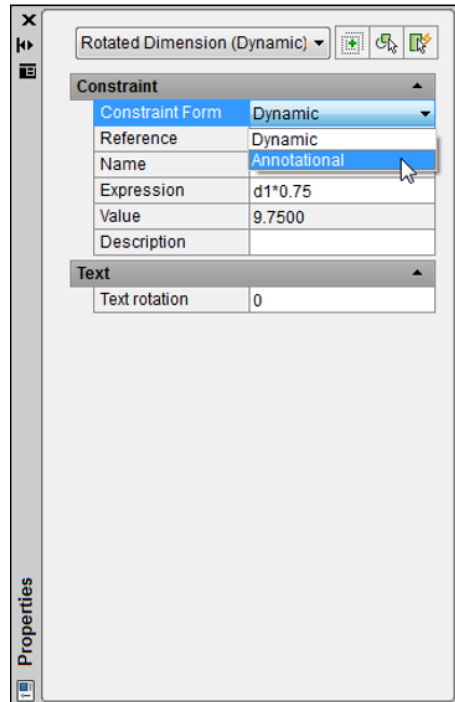

FIGURE 19-15: Turning dynamic constraints into annotational ones.
3. Click in the Constraint Form field, and in the drop-down list, change Dynamic to Annotational (see Figure 19-15).